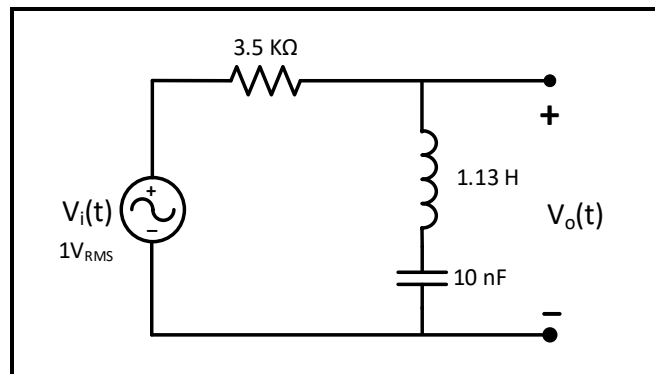

Figure 10.16
8. Calculate the center frequency (f_0), two cut-off frequencies (f_{c1} and f_{c2}), and bandwidth (β) **in Hertz** for the circuit in Figure 10.16 with two values of R (3.5 k Ω and 7.1 k Ω)
1. Connect the circuit of Figure 10.16, with a sinusoidal input voltage at 1 V_{RMS} , use decade box for R.